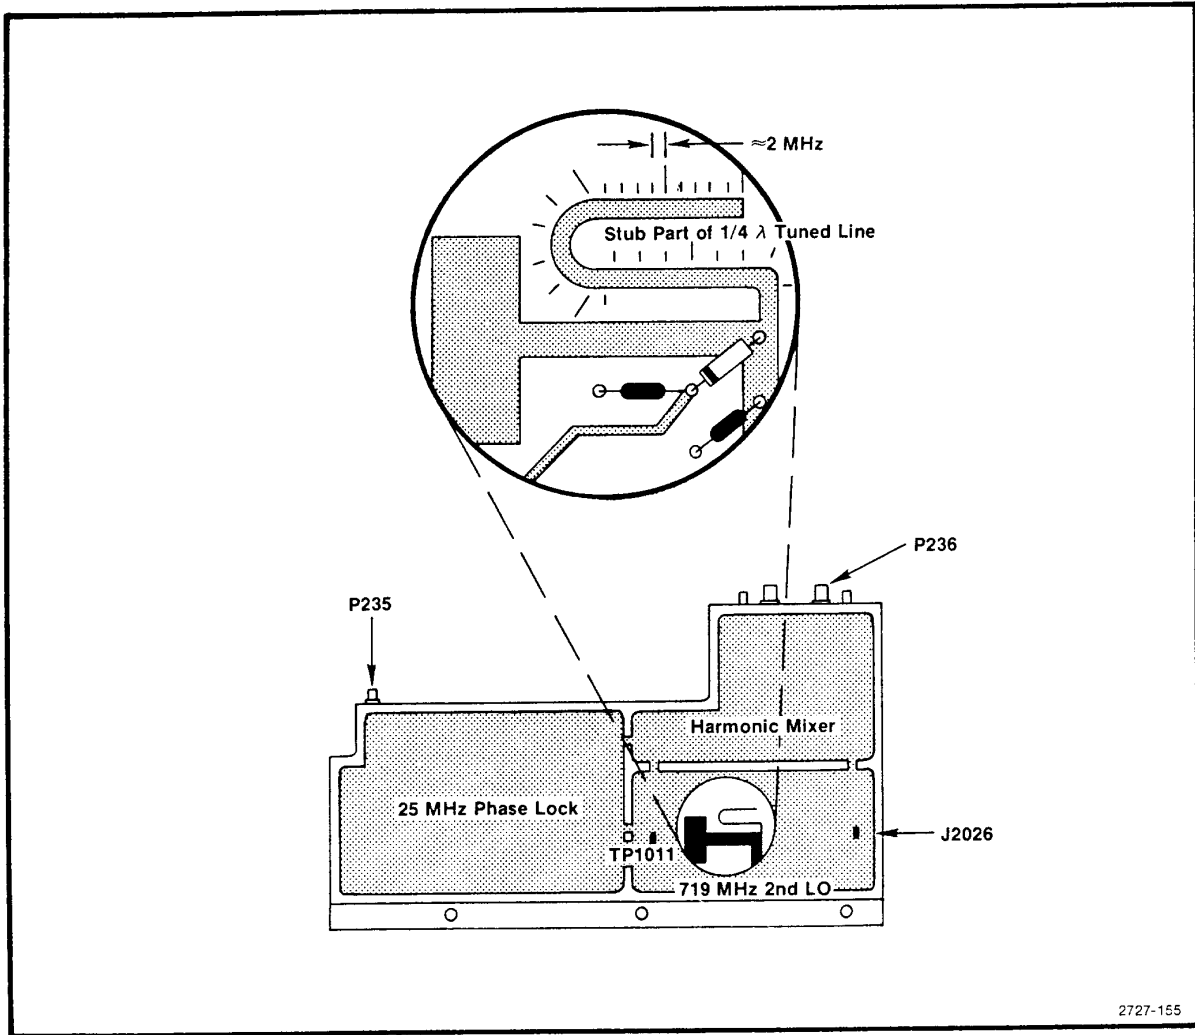

Fig. 4-12. LO section of 829 MHz converter showing test points and connectors.
- b. The 2nd LO range is from 714.5 MHz to 723.5 MHz (with the cover off). 719 MHz is the optimum center frequency. Frequency of the oscillator is controlled by the Tune Volts from the 25 MHz Phaselock circuit (located at TP1011) which varies from +5 V (low end) to +11.9 V (high end) with +6.75 to +7.5 V as the limits for operation at 719 MHz. Set the digital voltmeter to measure 12 V then connect it between TP1011 (Fig. 4-12) and ground.
- c. Disconnect the 100 MHz reference from the 3rd Converter by unplugging P235 (Fig. 4-12). The oscillator should go to its upper limit and the voltmeter indicate about 11.9 V.
- e. The 719 MHz oscillator frequency is a function of the length of the printed 1/4 wavelength transmission line. Minor adjustments to the oscillator frequency are made by shortening the U-shaped transmission line stub, off the main line. Graduation marks (see Fig. 4-12) along the side of the stub provide a guide to calculate frequency correction. Each minor mark from the end or cut across the stub, represents an approximate change of 2 MHz.